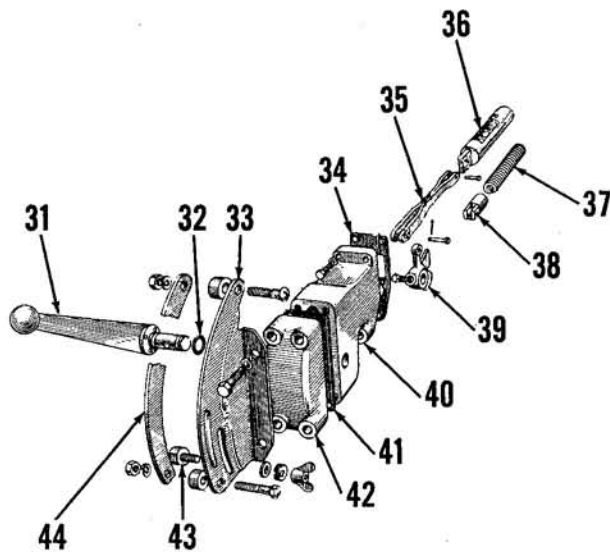

Fig. 184—Exploded view of control lever, support and control valve unit; refer to Fig. 181 for view showing unit split from valve housing.
To disassemble lever, quadrant and support assembly, refer to exploded view in Fig. 184. Unbolt quadrant (33) and cover (42) from support (40) and remove set screw from valve lever (39). Then remove hand lever (31) and valve lever from support. When reassembling, renew the "O" rings (32) on hand lever shaft and install cover with new gasket (41).
**Fig. 189—Exploded view of model "FMD" and "FPM" hydraulic lift cover, cylinder, lift shaft and related parts. Refer to Fig. 184 and Fig. 185 for exploded views of valve housing and related parts that bolt to front face of lift cover (12).**